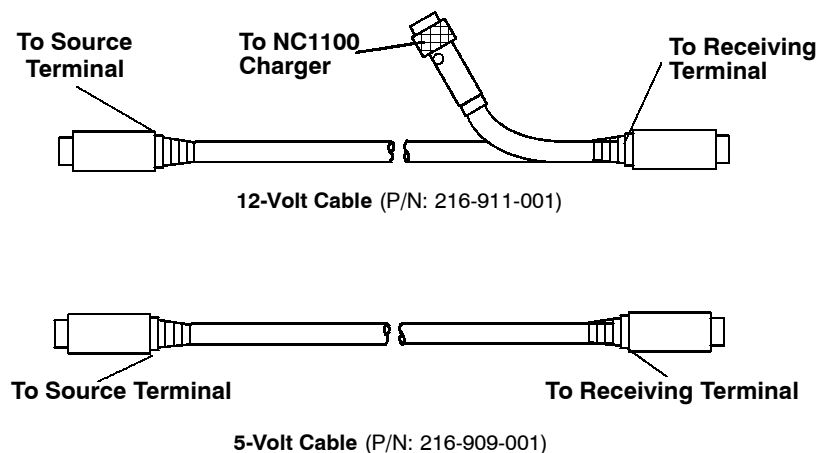
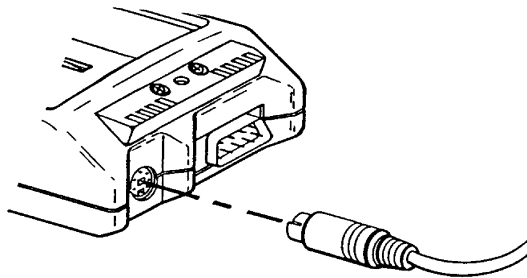

Figure 4-1
Figure 4-2
1. Connect the two terminals together using the cloning cable. Use cable P/N: 216-911-001, with radio terminals containing 12-volt Flash (Figure 4-1) for connecting with the NC1100 Power Supply and Charger (see Figure 4-2).